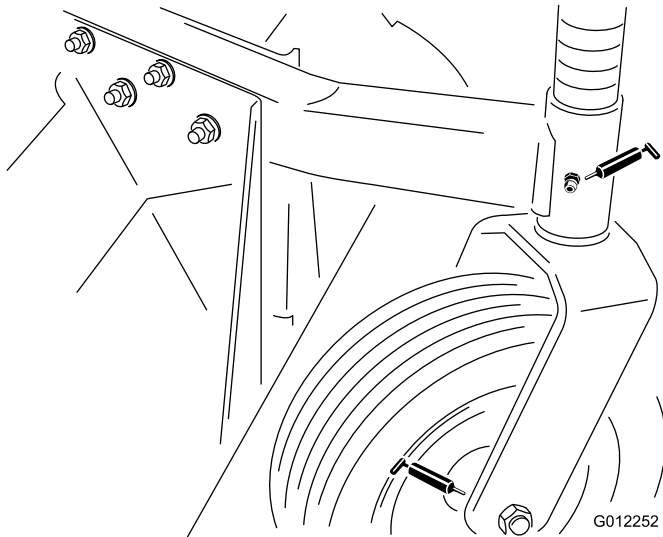

Figure 17
- Castor spindle bushings -1 each (Figure 17)
- Castor wheel bearings -1 each (Figure 17)